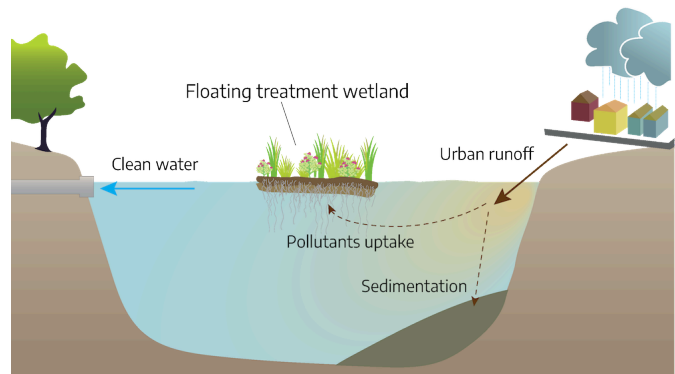

Figure 17-12: Floating treatment wetland.
- Figure 17-12: Floating treatment wetland. Johnson, Devon. 2022. CC BY-NC-SA 4.0. Adapted from "Figure 1" Wisconsin State Legislature: Legislative update 9-17-19.